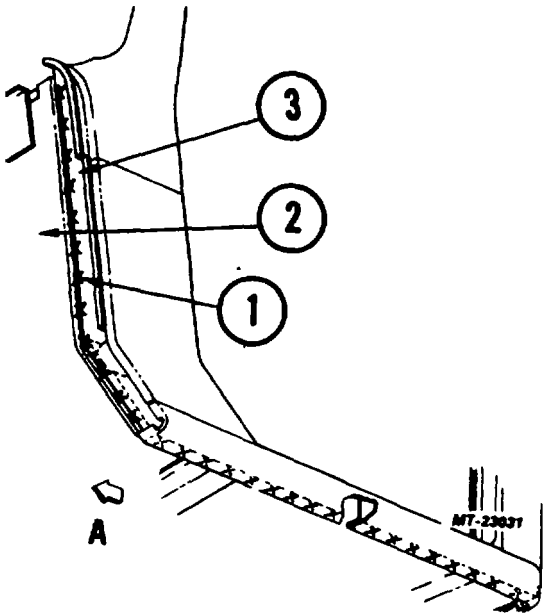

Fig. 42 Filler Panel to Dash Panel Spot Welds
6. Drill out spot welds at seam between dash filler panel and dash panel. Separate filler panel from dash panel (Fig. 42).